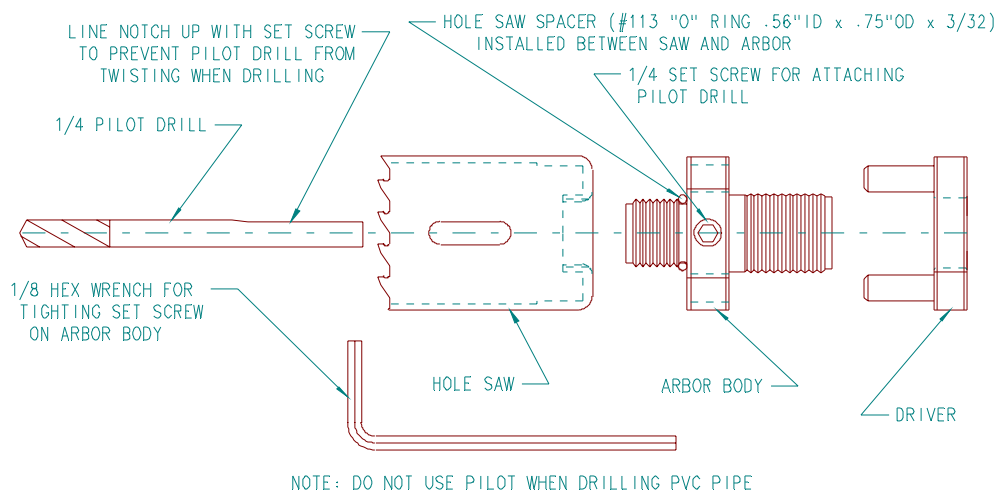

Figure 1.
A) If you are using the unit for drilling 1-1/2" or 2", the hole saw adapter and hole saws with pilot drills are needed. Screw the hole saw onto the arbor body and line up holes after hand tightening. Assemble the driver into the body and hole saw. Insert the pilot drill into the arbor body. Allow a maximum of 1/4" of the drill tip to protrude from the hole saw. Line up the slot in the drill with the set screw and tighten with the hex key wrench provided. (When using on PVC, a pilot drill is not necessary.) See fig. 1 below.